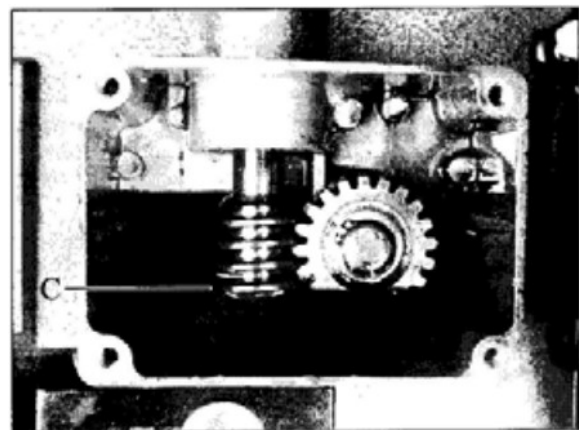

Figure 20
3. Remove the four screws (A) (see Fig.20), and the gearbox cover (B) and gasket.